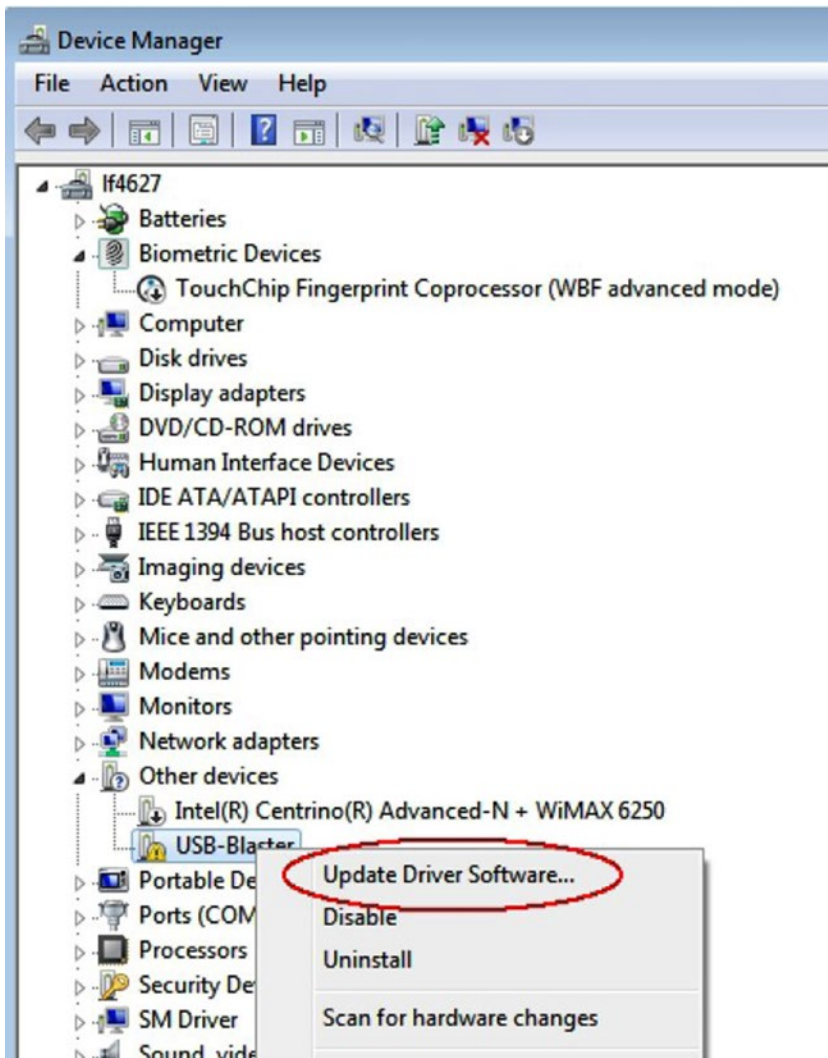

Figure 4-52. Device Manager
2. Right-click the **USB-Blaster** which will be listed under **Other Devices** and select **Update Driver Software...** (Figure 4-52).